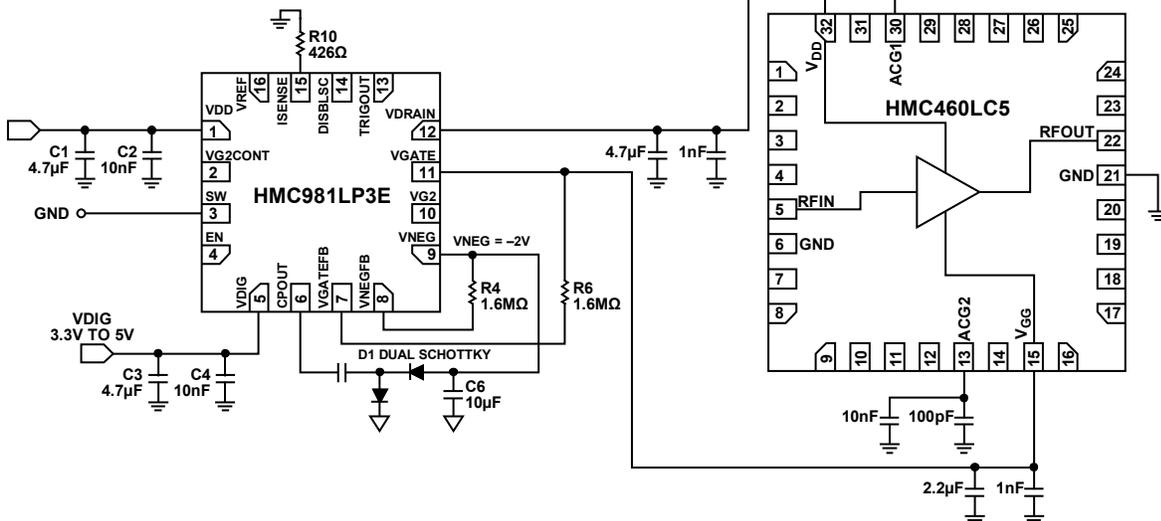

Figure 26. Application Circuit for Biasing the HMC460LC5 with the HMC981LP3E
- The shunt  $V_{GG}$  capacitor values can be reduced to increase the rise time (see HMC460LC5 in Figure 26). Refer to the Reducing VGATE Rise Time section for further details.